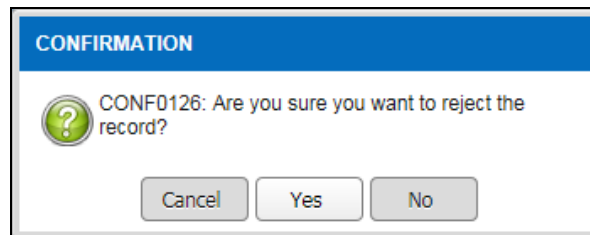

Figure 3.3.2-5 Confirmation Message
- *Confirmation message will be displayed as Figure 3.3.2-5*
- Click on the  button and information message will be displayed as Figure 3.3.2-6